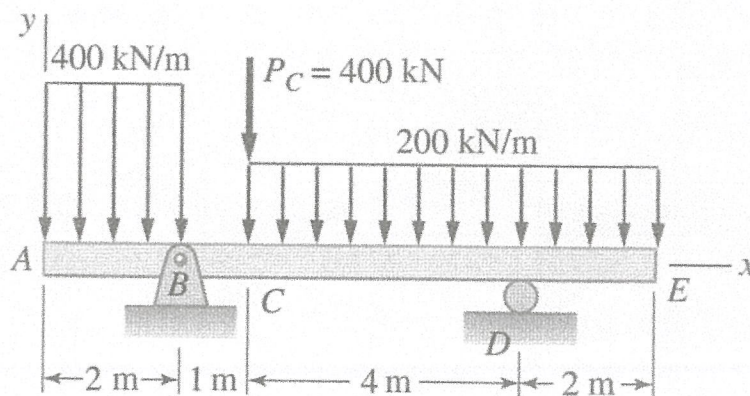

Figure Q2
- Q2.** A simple overhanging beam AE as shown in **Figure Q2** carries two uniformly distributed loads and a concentrated load supported at the position indicated B and D.